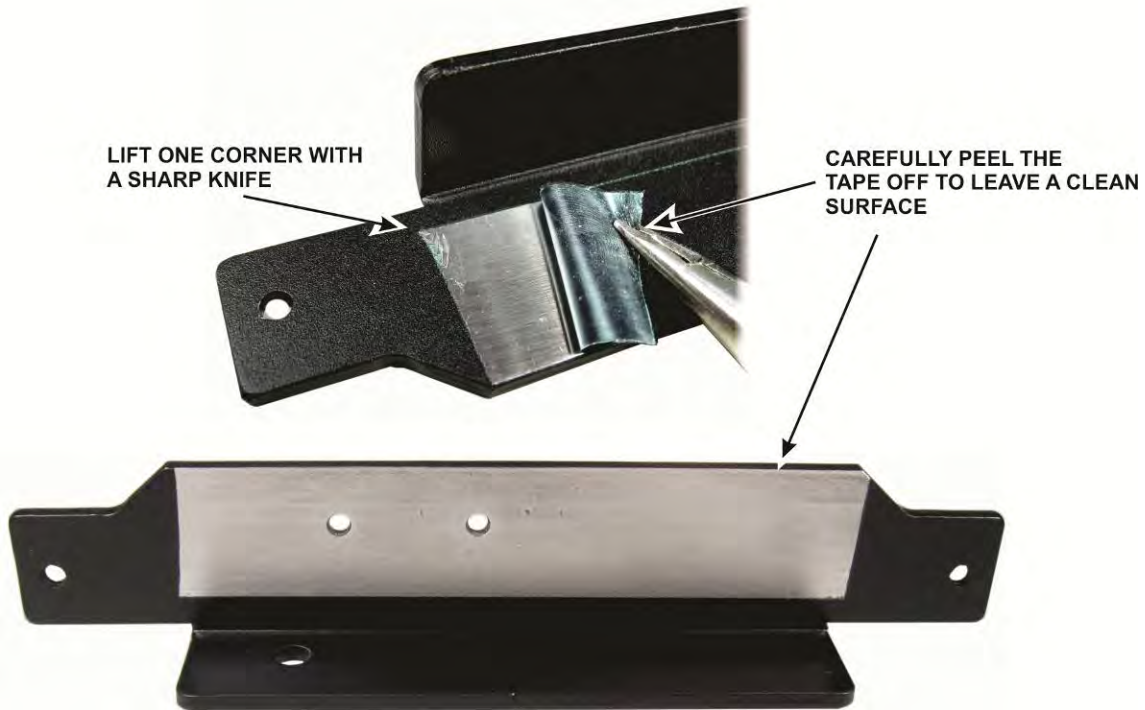

Figure 33. Removing Tape from the Heat Sink.
□ If you haven't done so already, remove the new heat sink from the paper wrapper. The side of the heat sink that will face the KX3 has been masked keep it free of the powder coating (see Figure 33). Remove the masking tape covering this area of the heat sink. The tape is strong. You can peel up one corner with a sharp tool and then pull the tape off of the metal as shown in the figure.